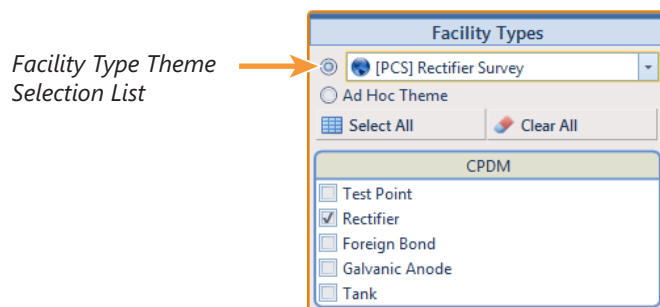

Figure 18-7. Facility Type Theme Option
- a To select a facility type, click the facility type option button and then click the down arrow and select a facility type in the list, such as  **[PCS] Rectifier Survey** (Figure 18-7).